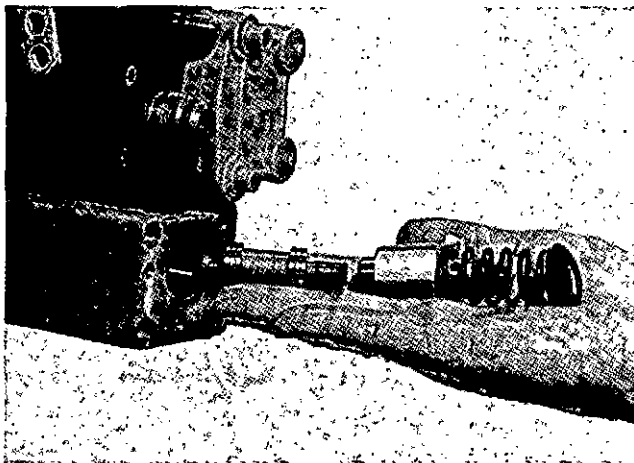

Fig. 4-5, (F5384). Remove the lower PT (type H) governor spring assembly.
2. Remove the retaining ring that holds the spring assembly. Remove the spring assembly, Fig. 4-5.